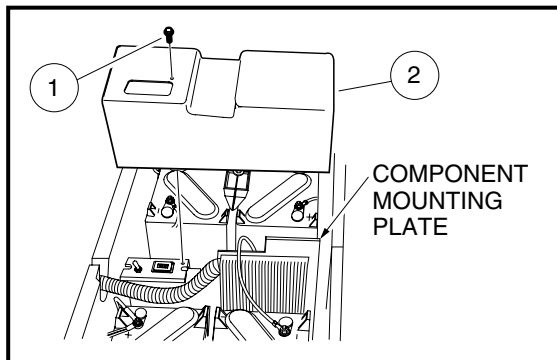

Figure 11-7 Electronic Module Cover
For many tests the electronics module cover must be removed to gain access to the various components that are mounted on the component mounting plate. Remove screw (1) and remove cover (2) (Figure 11-7, Page 11-17). See following WARNING.